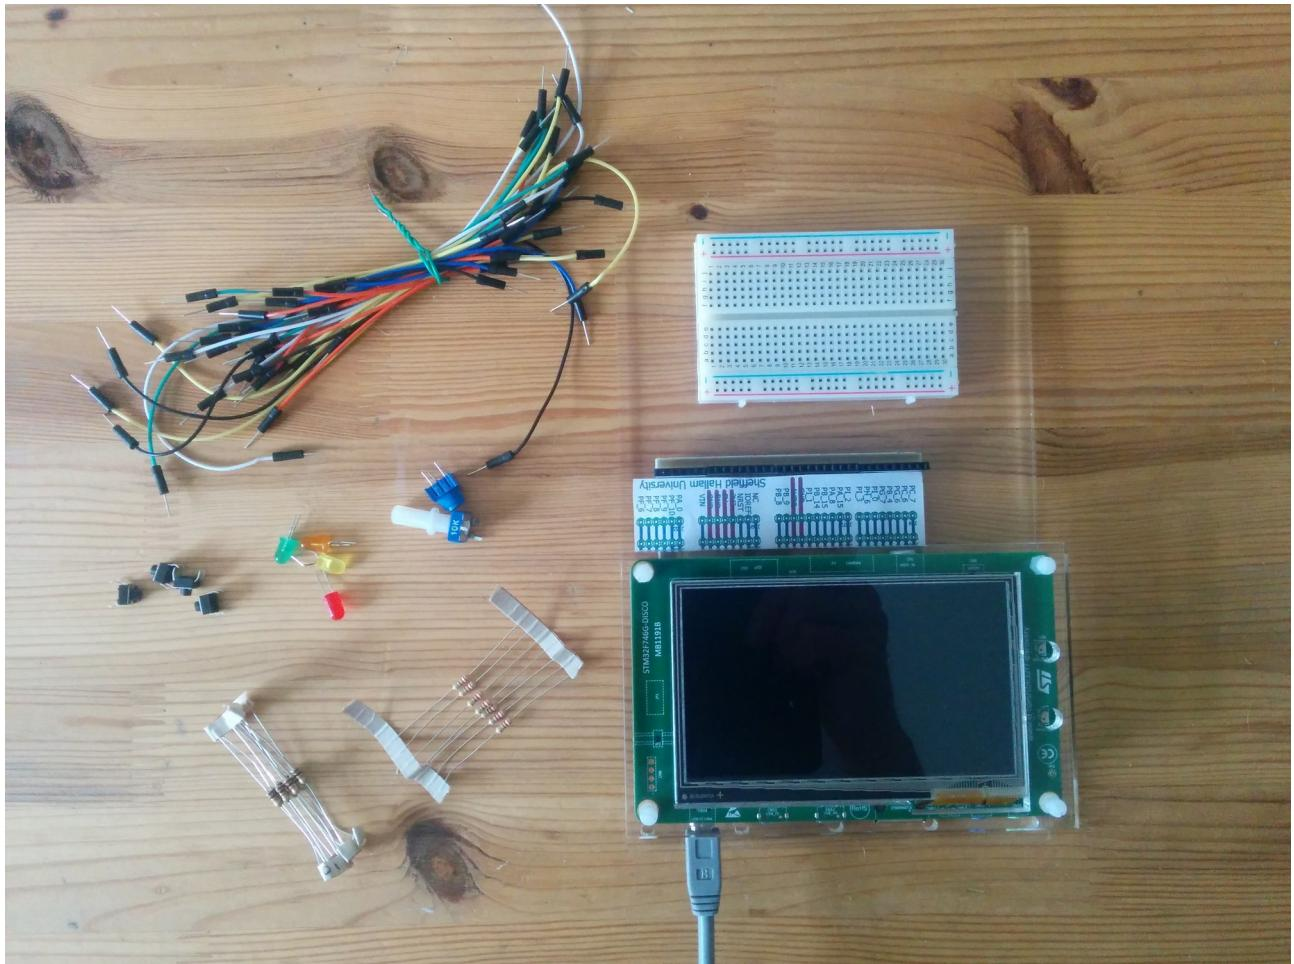

Figure 1 – The necessary equipment for this lab (don't worry if you have LEDs of a different colour)
1. Check that you have all the necessary equipment (see Figure 1)!